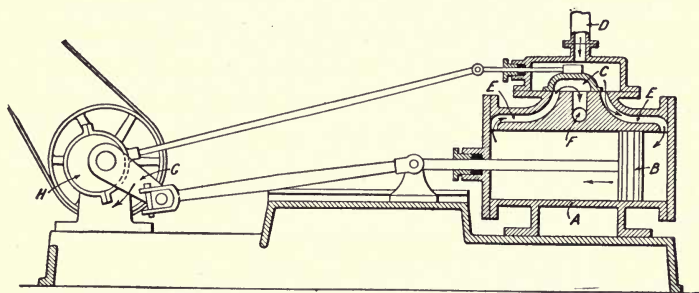

FIG. 169.—Steam Engine.
**368. Principal Parts of Steam Engines.**—The principal parts of a simple engine (Fig. 169) are the frame, cylinder,